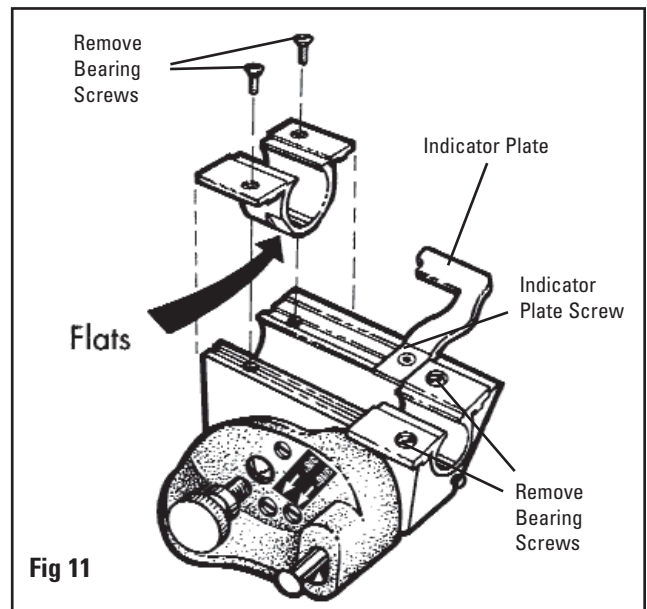

Fig 11
5. Use a screwdriver to remove four bearing screws and the indicator plate screw. **Fig 11**
1. Replace the new bearings. BE SURE THE "FLATS" MOLDED INTO THE BEARINGS FACE TOWARD THE CENTER OF THE CUTTING HEAD. **Fig 11**